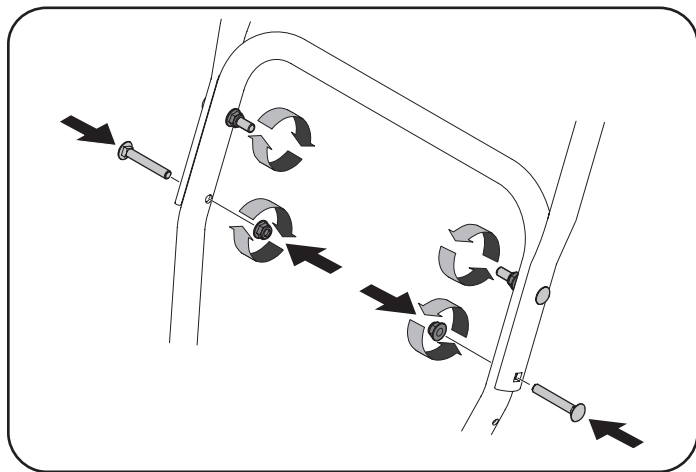
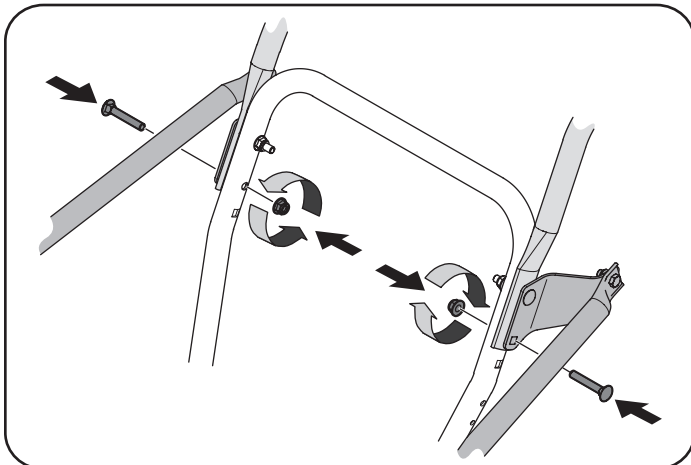

Figure 6
Figure 7
- Attach the two carriage screws and lock nuts removed in Step 2. Finish securing the handle by tightening the top two lock nuts loosened in Step 2. See Figure 6 or Figure 7 for units with side supports.